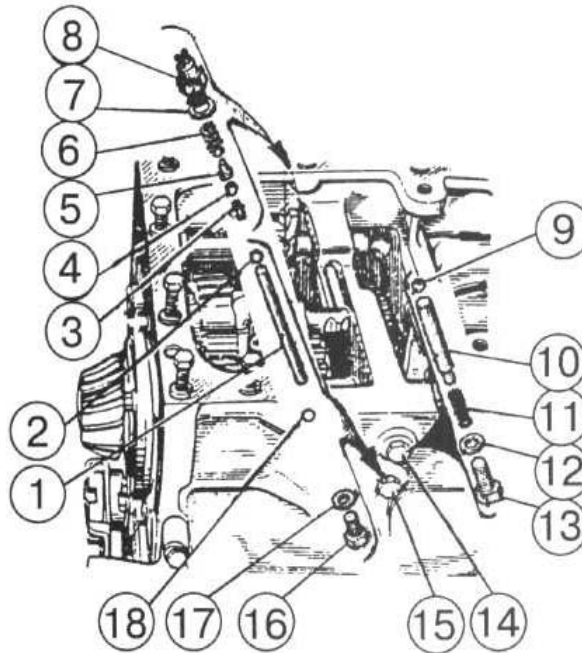

Figure 4.61
- i) unscrew bolts 14, 15 (Figure 4.61) and switch off interlocks 8;